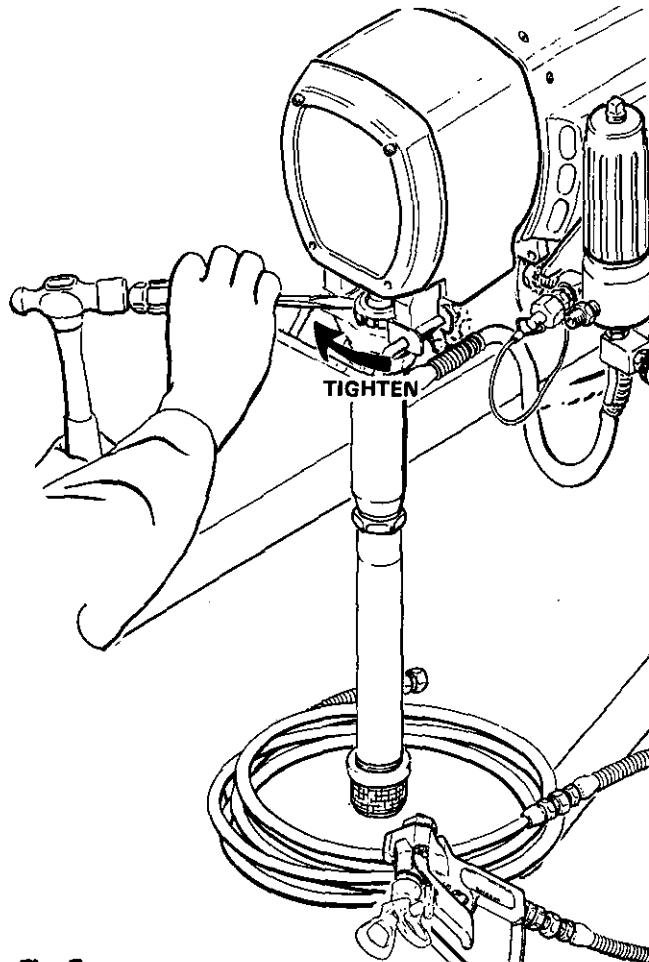

Fig. 7
1. **Check the packing nut/wet-cup daily.** First follow the **Pressure Relief Procedure Warning** on page 10. Be sure the wet-cup is 1/3 full of TSL at all times to help prevent paint buildup on the piston rod and premature wear of packings. The packing nut should be tight enough to stop leakage, but no tighter. Overtightening may cause binding and excessive packing wear. Use a screwdriver and light hammer to adjust the nut. See Fig. 7.